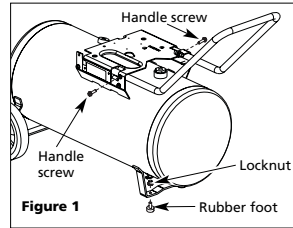

Figure 1
- Insert handle through shroud and into baseplate as shown in Figure 1. Handle must fit into special openings in baseplate.
Insert threaded posts of rubber feet into holes in front bracket. Tighten securely with locknuts (see Figure 1).